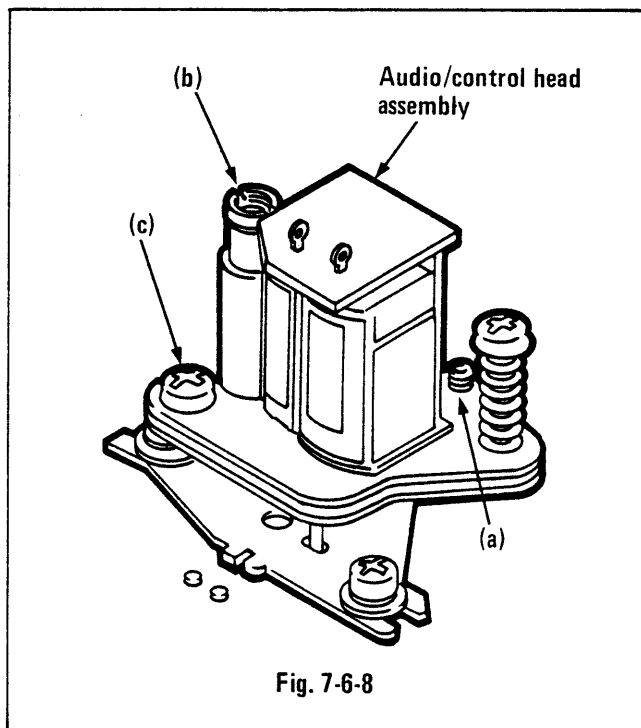

Fig. 7-6-8
4. AUDIO/CONTROL HEAD (See Fig. 7-6-8.)